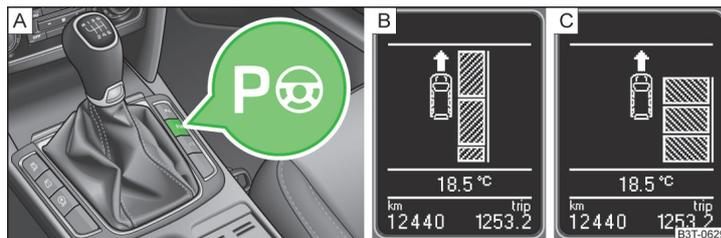

Fig. 149 System button / display
When the system is activated, the warning light illuminates **P** » Fig. 149 on page 158 - **A**.
- Press the symbol button **once** **P** » Fig. 149 .
The display shows the following » Fig. 149 - **B**.
- Press the symbol button **twice** **P** » Fig. 149 .
The display shows the following » Fig. 149 - [C].
- › Press the symbol button **P** » Fig. 149 on page 158.